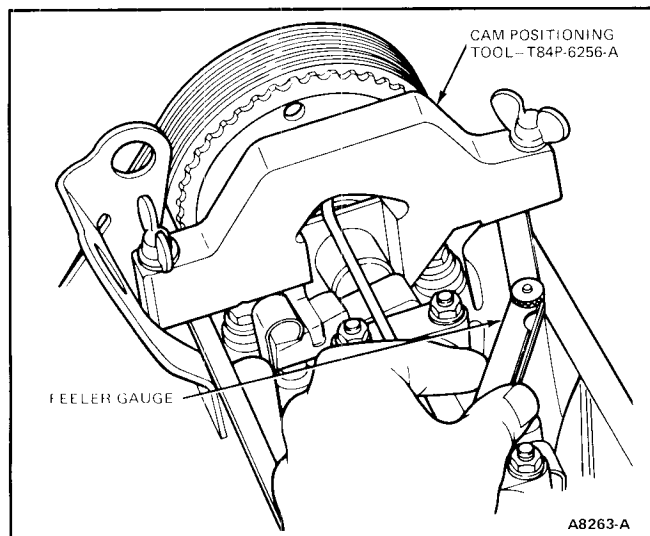

FIG. 35 Cam Positioning with Feeler Gauge
1. Insert a 2.5mm (0.098 inch) thick feeler gauge blade between Cam Positioning Tool T84P-6256-A or equivalent, and the right front corner of the gasket mating surface of the cylinder head (Fig. 35) if using a new drive belt or a drive belt used with less than 16,000 km (10,000 miles).